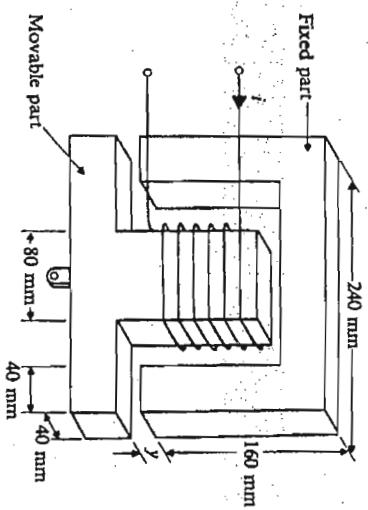

Fig. 3.66 Diagram for Problems 3.10, 3.18, and 3.19.
3.10 The actuator shown in Fig. 3.66 is to be used to raise a mass m through a distance y . The coil has 500 turns and can carry a current of 2 A without overheating. The magnetic material can support a flux density of 1.5 T with negligible field intensity. (Fringing of flux at the air gaps may be neglected.)